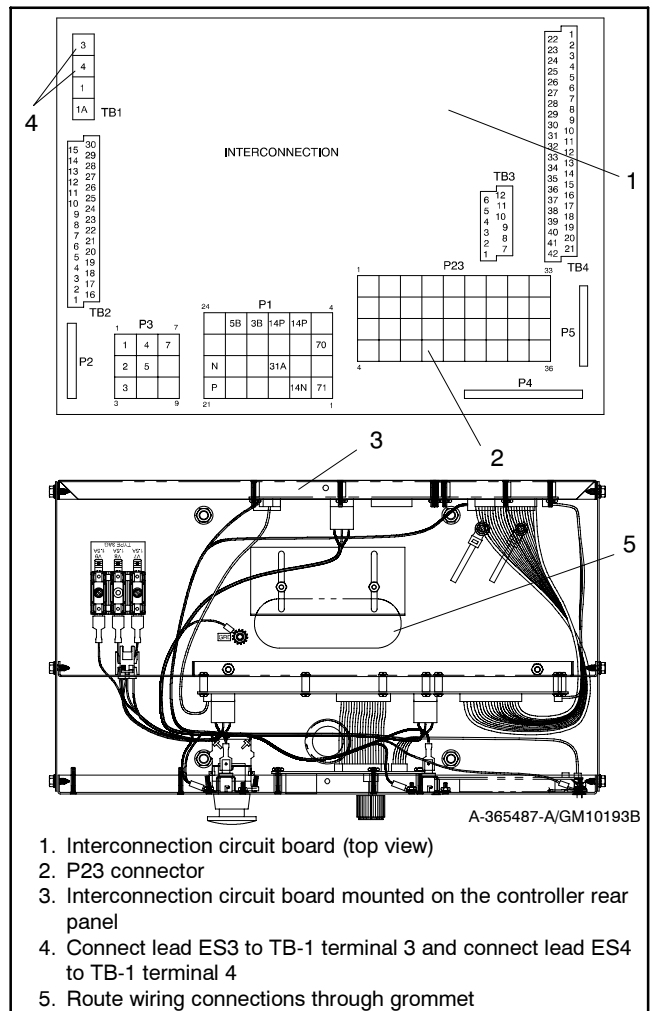

Figure 5 Controller Circuit Board Connections
- 3.3 Plug the wiring harness connector into the interconnection circuit board's P23 connector. Connect lead ES3 to TB-1 terminal 3 and connect lead ES4 to TB-1 terminal 4. See Figure 5. If access to the interconnection circuit board is difficult, remove the two rear controller panel top screws and loosen the bottom screws to swing the rear controller panel down.